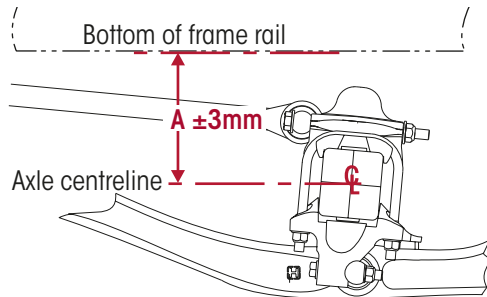

Figure 2: Ride Height Measurement (within ± 3 mm)
4. Find the vehicle manufacturer's ride height specification. This can be obtained from the vehicle manufacturer, vehicle handbook or suspension label. If these are unavailable, current vehicle ride height may be used as a reference. Ride height is measured from the underside of the chassis frame rail to the centre of the axle that has the height control valve attached. Check the height at each HCV location if equipped with dual height control valves. Refer Figure 2 and also to "Simple Ride Height Check" on page 5.